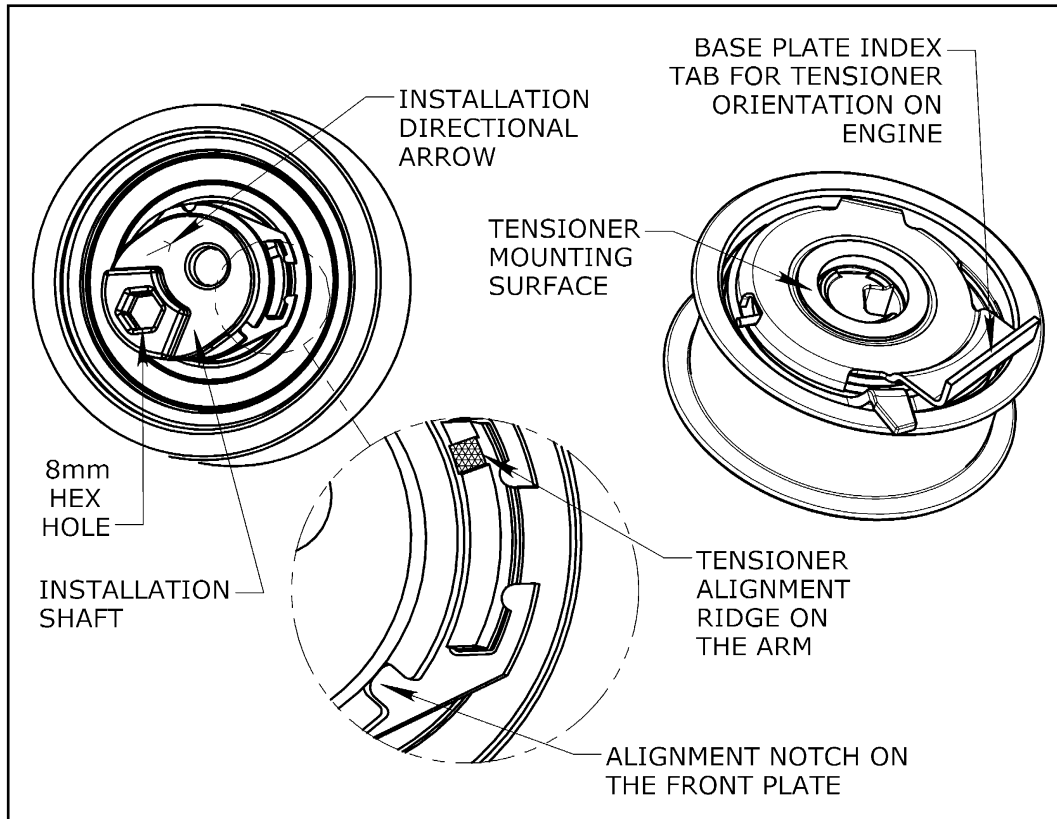

Figure 2: Timing Belt Tensioner
5. Install the new tensioner (Fig. 2) on the engine mounting stud ensuring that the anti-rotation Index Tab of the base plate is engaged in the hole in the timing back cover.